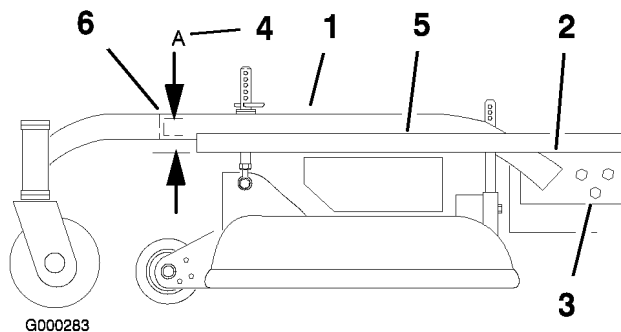

Figure 56
3. Place a long straight edge on top of the engine deck as shown in Figure 56.
4. At the carrier frame cross tube, measure the height at location **A** (Figure 56). This measurement must be 1-5/16 inch (33 mm), plus or minus a 1/4 inch (6 mm).
6. Loosen the carrier frame mounting bolts on both sides of the machine (Figure 56).
7. Align the carrier frame and engine deck to match 1-5/16 inch (33 mm), plus or minus a 1/4 inch (6 mm) at location **A** (Figure 56).